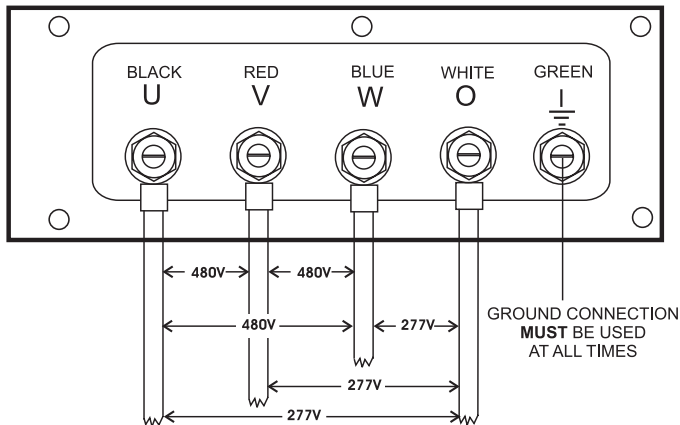

Figure 28. UVWO Terminal Lugs 480/277V Three Phase Connections
2. Connect the load wires to the **Output Terminal Lugs** as shown in Figure 28.